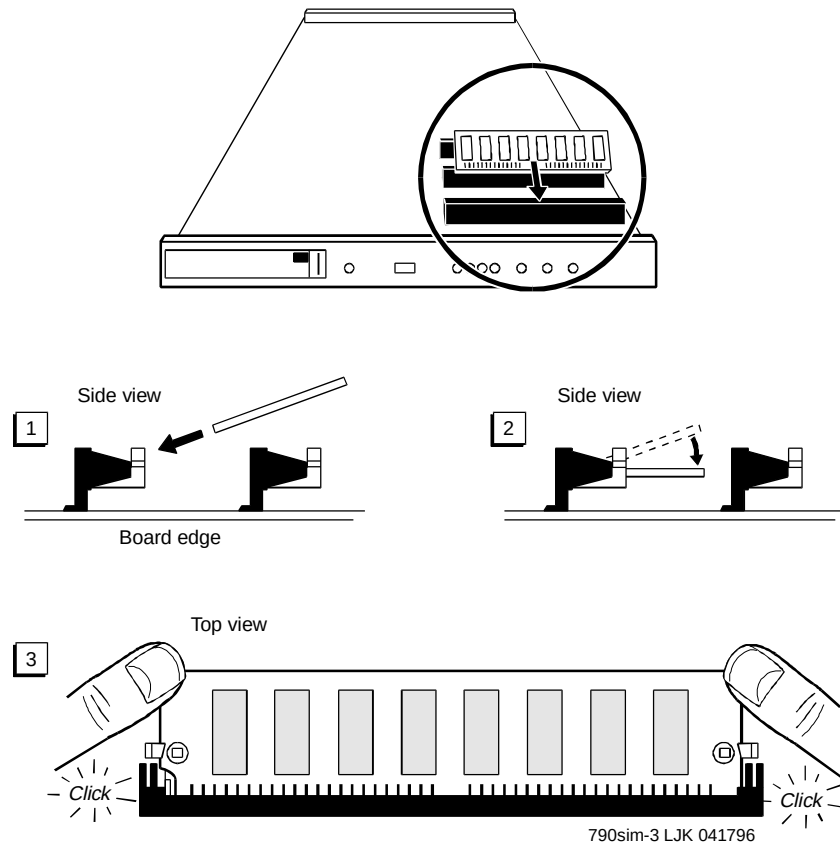

Figure 5-8. SIMM Insertion Procedure
7. Pivot the SIMM down and towards the circuit pack until it clicks into place. See Figure 5-8.